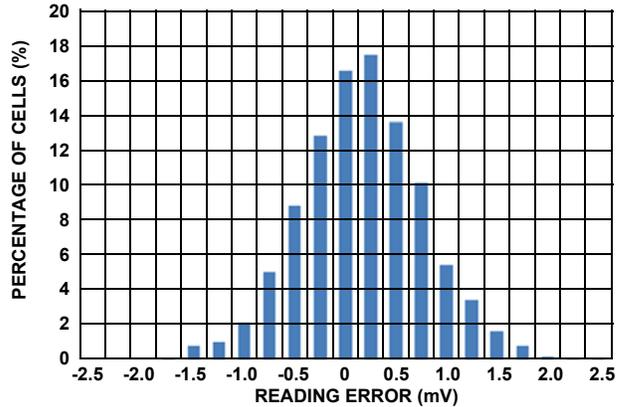

FIGURE 6B. CELL READING ERROR FROM EVALUATION BOARDS AT CELL VOLTAGE FROM 2.6V TO 4.0V, AND -20°C TO +60°C HISTOGRAM
10. Stresses may be induced in the ISL78600 during soldering or other high temperature events that affect measurement accuracy. Initial accuracy does not include effects due to this. See Figure 6B for cell reading accuracy obtained after soldering to Intersil evaluation boards. When soldering the ISL78600 to a customized circuit board with a layout or construction significantly differing from the Intersil evaluation board, design verification tests should be applied to determine drift due to soldering and over lifetime.